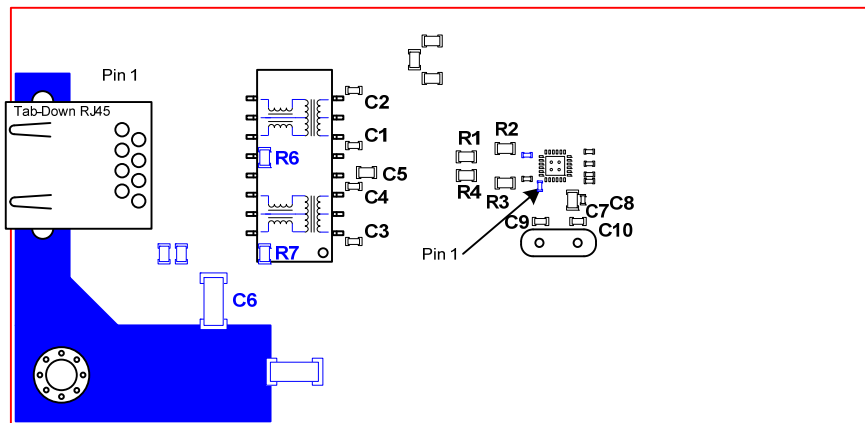

Figure No. 1
5. See Figure No. 1 for the placement of the termination resistors for the differential pairs for the LAN8720 Phy. These resistors are R1, R2, R3 & R4 in Figure No. 1.
6. Place the four optional, low-valued, common mode capacitors for each differential signal as close as possible to the magnetics. They should be placed as to create the smallest possible stub. These caps are C1, C2, C3 & C4 in Figure No. 1.
3. See Figure No. 1 below for the placement of the center tap termination components for the LAN8720 Phy. These resistors/capacitors are C5, R6, R7 & C6 in Figure No. 1.